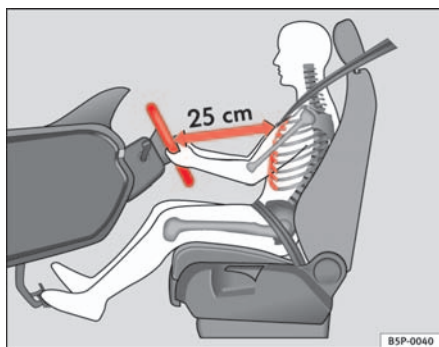

Fig. 1 The proper distance between driver and steering wheel
- Adjust the steering wheel so that there is a distance of at least 25 cm between the steering wheel and the centre of your chest ⇒ **fig. 1**.
- Adjust the driver's seat so that there is at least 25 cm distance between the centre of the chest and the hub of the steering wheel ⇒ **page 9, fig. 1**. If you are sitting nearer than 25 cm, the airbag system cannot protect you properly.